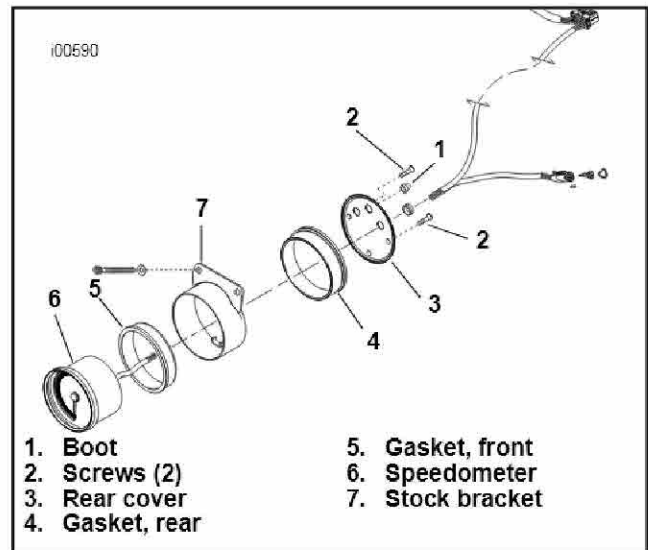

Figure 8. Removing Speedometer From Stock Bracket
1. See Figure 8. Unscrew boot (1) from speedometer reset switch by turning it counterclockwise. Remove two cover screws (2) and the rear cover (3).